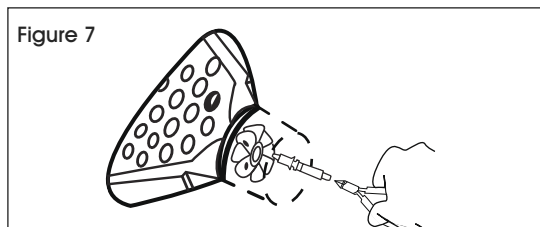

Figure 7
2. Remove spark plug and flame holder with pliers. (See Figure 7)